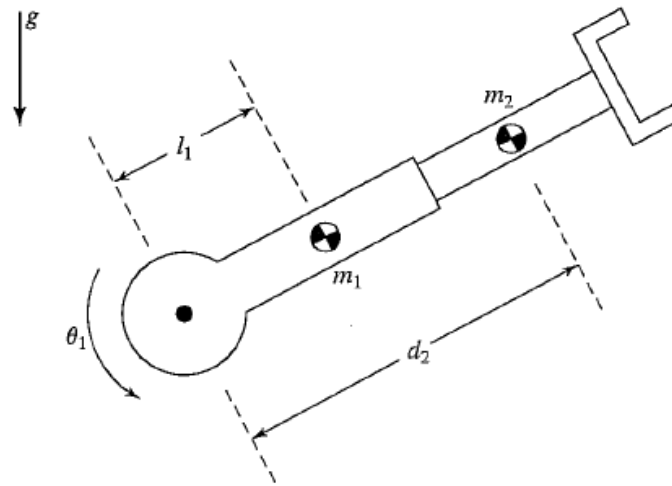

Figure.Q3C.
- 3C.** Derive the equation of Motion for the 2 DoF freedom manipulator as shown in Fig. Q3C. **04**